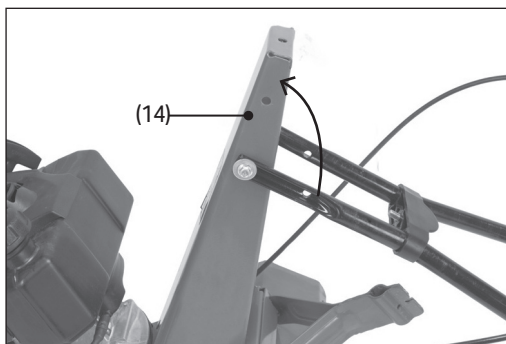

Fig. 4
- c. Use the bolt to screw the left handlebar into the lowest opening on the left side (when viewed from the rear) of the handlebar support (14) so that the handle grip points downwards (Fig. 4).
- d. Secure the bolt loosely with an M8 spring washer (M) and serrated flange nut (K).
- e. Attach the right handlebar (21) in the same manner to the right side of the handlebar support.